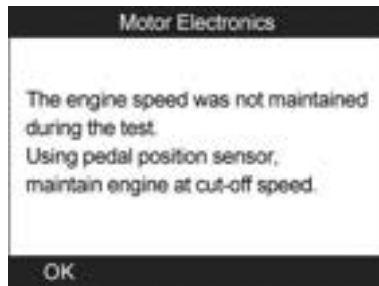

Figure 11.45
- If the engine is not running at cut-off speed, the tool will display a warning message (Figure 11.45). Select **OK** to repeat the test.